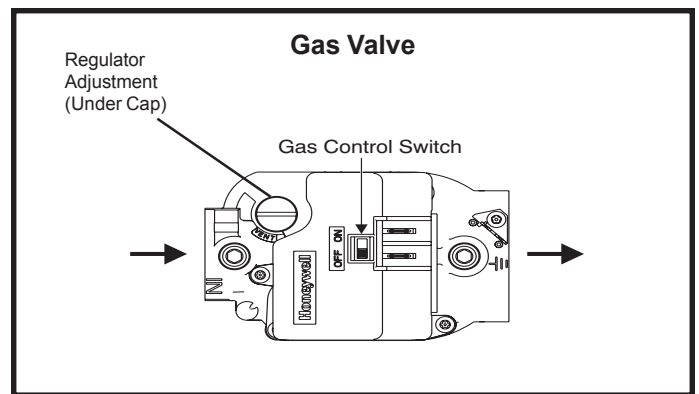

Figure 7
3. Turn the gas valve knob to the "ON" position (see Figure 7).
2. Turn the gas valve switch to the "OFF" position (see Figure 7).